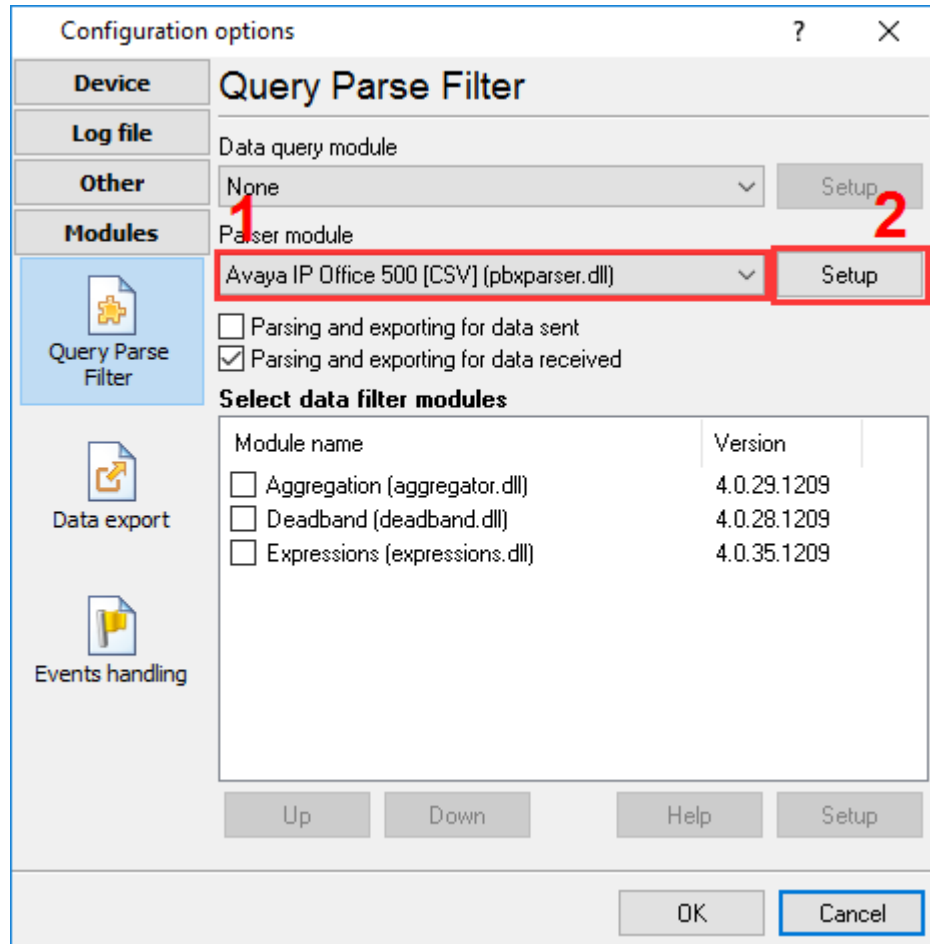

Figure 1. Selecting a parser
3. Switch to the "Modules → Query Parse Filter" tab and select a parser for your PBX (Figure 1).